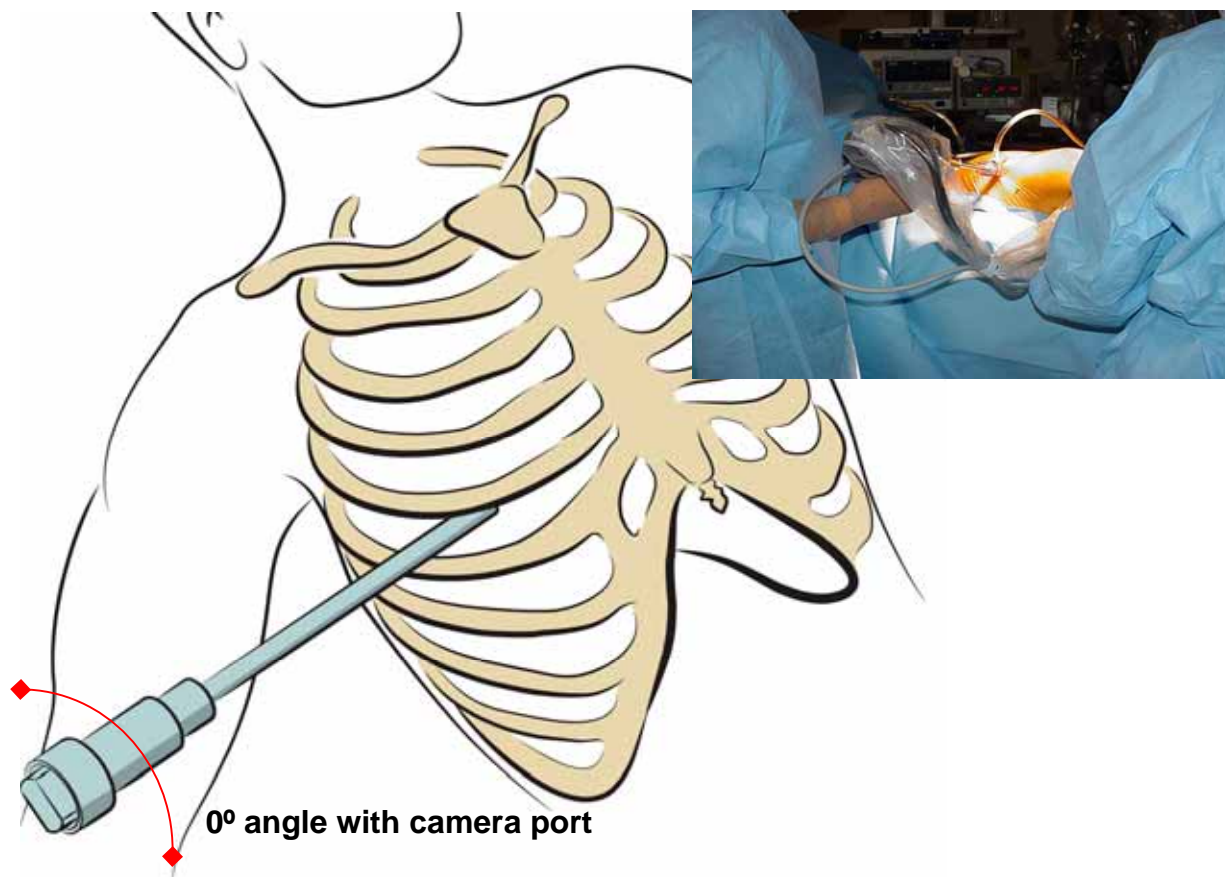

Figure 8: optimal 0° camera angle to view atrial junction
- Aim the endoscope at the pulmonary veins with the camera facing the heart and not rotated. If the angle of the endoscope shaft to view the pulmonary vein-L atrial junction is 0° with the intercostals space (scope coming out of the chest perpendicular to the thoracic wall), your camera port location is good [Figure 8].